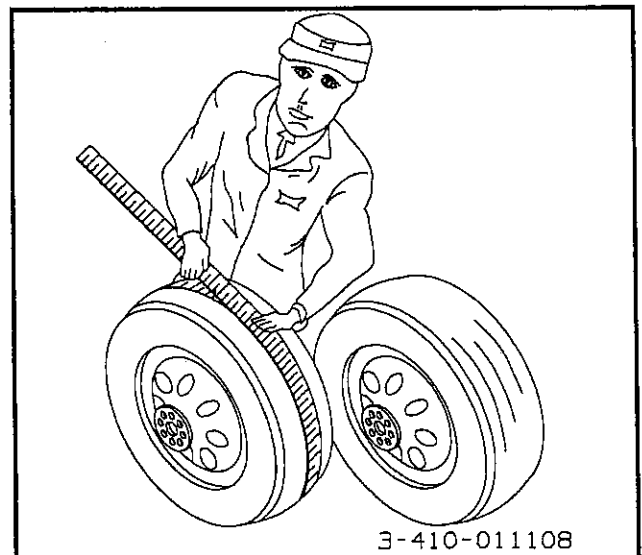

Figure 6-4 Checking Tire Size with Measuring Tape
a. Measure around each tire on the tread surface. A maximum difference of  $\frac{3}{4}$ " in the measurements is allowed between the two mating tires of a dual (See Figure 6-4).